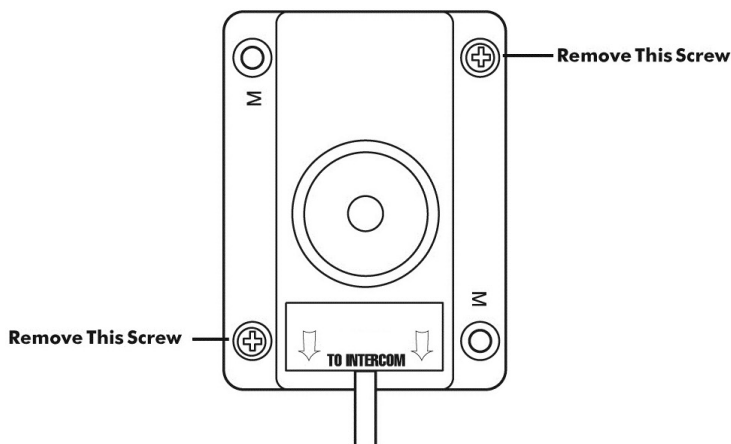

Figure 10
1. Remove the screws holding the HM-10 together (Figure 10) and remove the bottom plate of the HM-10.